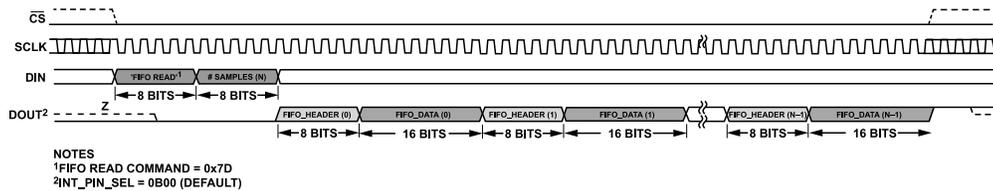
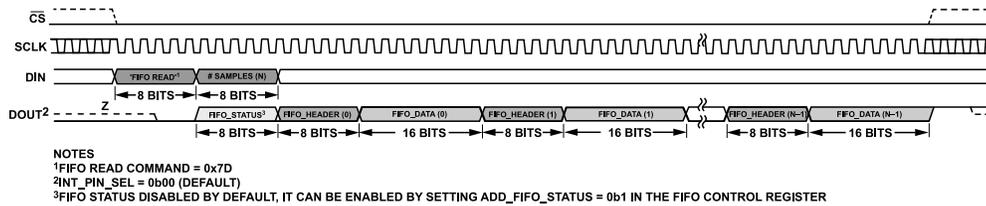

Figure 104. FIFO Readback Default (FIFO_STATUS Append Off and FIFO_HEADER Append On)
Figure 105. FIFO Readback (FIFO_STATUS Append On and FIFO_HEADER Append On)
By default, the FIFO_HEADER is enabled and the FIFO_STATUS append is disabled. Therefore, the FIFO readback diagram looks like Figure 104. If the FIFO_STATUS append is enabled, the FIFO readback diagram looks like Figure 105.
The FIFO_STATUS register content (see Table 71) can be enabled to be added and read before the FIFO_DATA and during the # samples (N) byte (see Figure 105), by setting ADD_FIFO_STATUS bit to 1 in the FIFO_CONTROL register (see Table 69). This way, the user can detect an error earlier on and abort the FIFO_DATA readback.